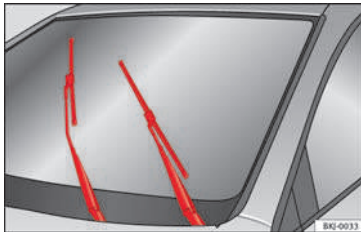

Fig. 74 Wipers in service position.
- Turn the ignition on and off and then (with approximately 9 seconds) push the windscreen wiper lever down (short wipe). The windscreen wipers will move to the service position » **Fig. 74.**